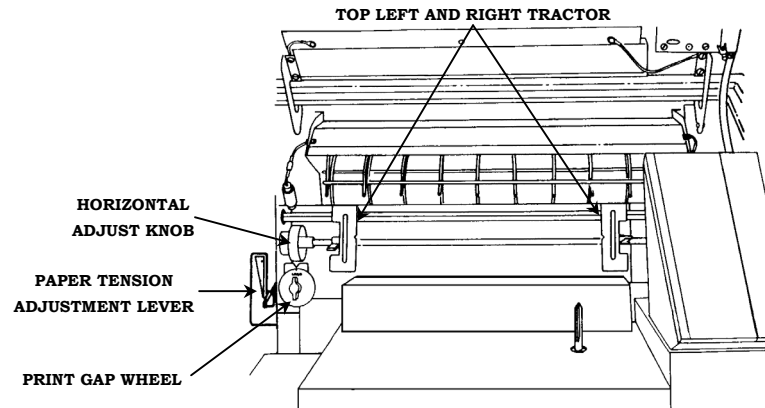

Figure 2-15 Top View of Printer
4. Open the top left and right tractor . See Figure 2-15.
The print gap wheel is used to adjust the distance between the bank of print head actuators and the striker bar. See Figures 2-15 for the location of print gap wheel.
The paper tension lever is located next to the print gap wheel. It is used to maintain the proper tension on the paper during printing. See Figure 2-15.